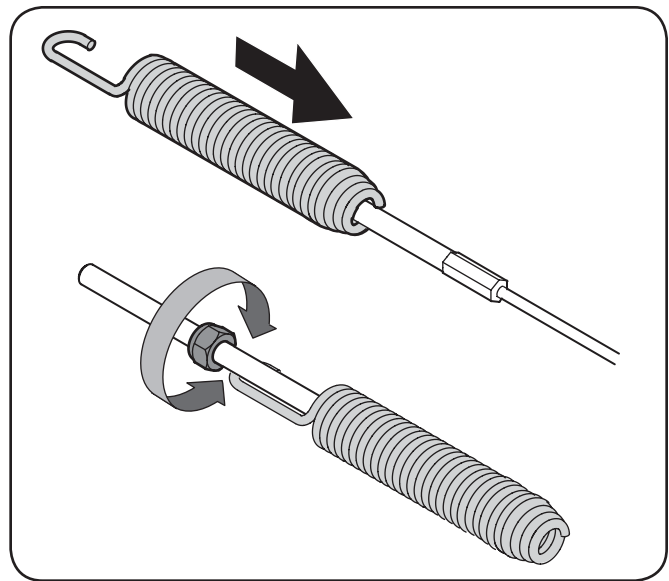

Figure 3-10
2. Slide the spring up the cable to expose the cable coupler threads and lock nut. Refer to Figure 3-10.